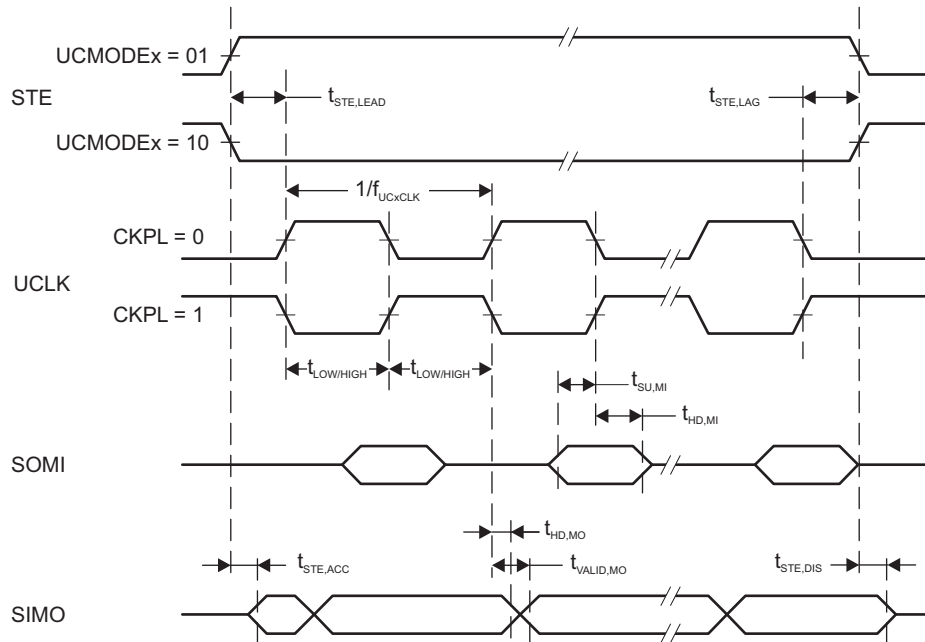
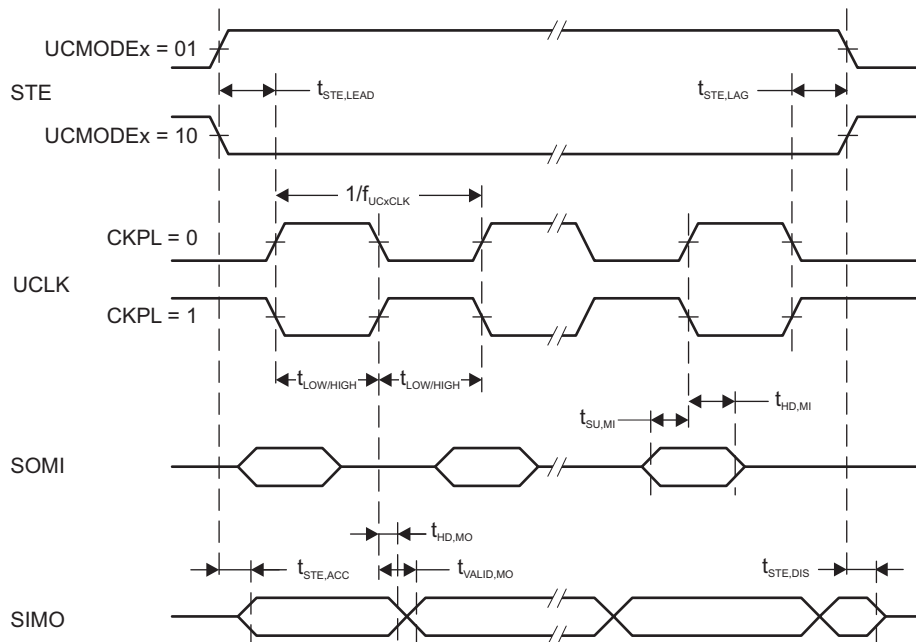

Figure 5-13. SPI Master Mode, CKPH = 0
Figure 5-14. SPI Master Mode, CKPH = 1
- (1) $f_{UCxCLK} = 1/2(t_{LO/Hi})$ with $t_{LO/Hi} = \max(t_{VALID,MO}(eUSCI) + t_{SU,SI}(Slave), t_{SU,MI}(eUSCI) + t_{VALID,SO}(Slave))$. For the slave parameters $t_{SU,SI}(Slave)$ and $t_{VALID,SO}(Slave)$, see the SPI parameters of the attached slave.
- (2) Specifies the time to drive the next valid data to the SIMO output after the output changing UCLK clock edge. See the timing diagrams in Figure 5-13 and Figure 5-14.
- (3) Specifies how long data on the SIMO output is valid after the output changing UCLK clock edge. Negative values indicate that the data on the SIMO output can become invalid before the output changing clock edge observed on UCLK. Refer to the timing diagrams in Figure 5-13 and Figure 5-14.